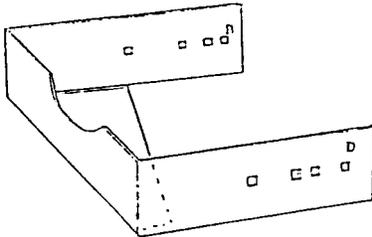
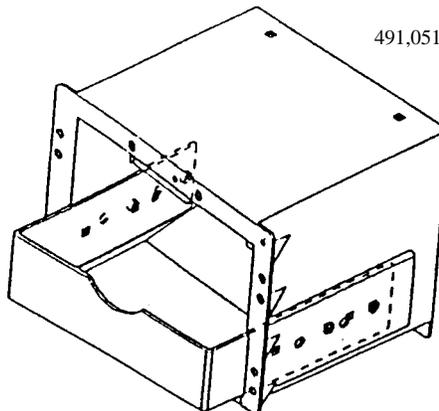

Figure 4A
Figure 5
3. Install extended discharge member so holes B & D (see figure 4A or 4B) line up with the back holes in the delivery port (see figure 5).
4. Figure 5 shows what the set-up should now look like.